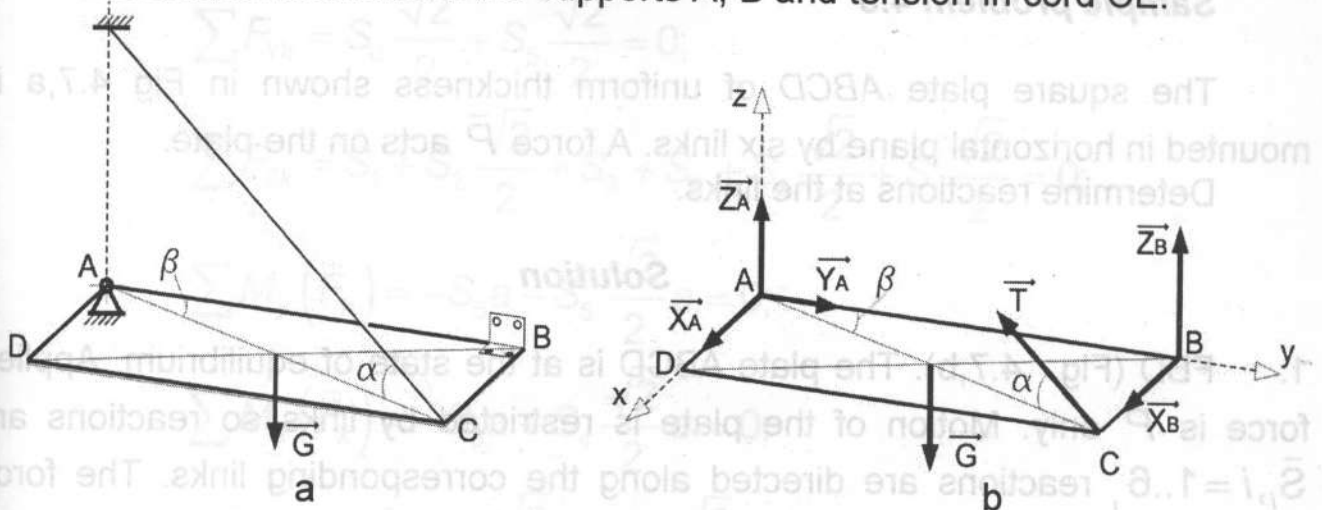

Fig. 4.6
The rectangular plate ABCD of uniform thickness shown in Fig. 4.6, a has weight  $G = 200 \text{ N}$  is mounted in horizontal plane by hinge at B, ball-and-socket joint at A and cord CE fixed at the point E,  $\alpha = 60^\circ$ ,  $\beta = 30^\circ$ .
1. FBD (Fig. 4.6,b). The plate ABCD is at the state of equilibrium. Applied force is weight  $\vec{G}$  only. Motion of the plate is restricted by hinge at B, ball-and-socket joint at A and cord CE fixed at the point E so reactions are the following: two forces at the point B  $\vec{X}_B, \vec{Z}_B$ , three forces  $\vec{X}_A, \vec{Y}_A, \vec{Z}_A$  at the point A and reaction of the cord CE  $\vec{T}$ . The force system acting on the plate is general three-dimensional. Let us choose coordinate system Axyz, axis Ay coincides with the side AB.